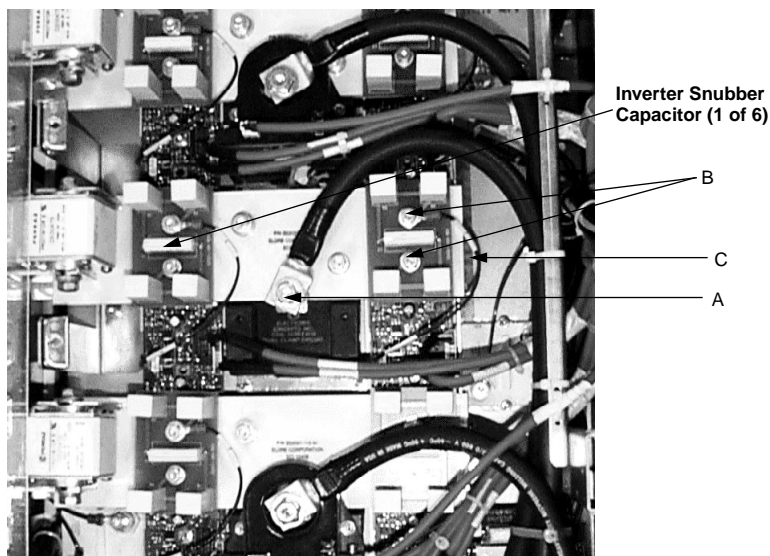

Figure 4.2.9: Inverter IGBT Sections
- Snubber boards. Refer to Figure 4.2.9 on page 4.2.17 and Figure 4.2.17 on page 4.2.33 for location.
3. Using a hex key wrench, disconnect the power cable (**A** in Figure 4.2.9) from the IGBT laminated bus assembly and move it out of the way as necessary to access the snubber board.
5. To remove the snubber board, loosen and remove two screws (**B**). Noting how it is routed, move the gate driver J1 wire (**C**) aside. (See Figure 4.2.9).
1. Place the snubber board on the inverter IGBT laminated bus assembly. Place the J1 wire (**C** in Figure 4.2.9 on page 4.2.17) from the gate driver board under the top screw of the snubber board, routing the wire toward the right side of the drive controller.
2. Install two screws to secure the snubber board to the IGBT laminated bus assembly (**B** in Figure 4.2.9). Using the torque wrench with a hex key attachment, tighten the two mounting screws to 18 lb-in (2 N•m).
4. Reconnect the power cable to the IGBT laminated bus assembly (**A** in Figure 4.2.9). Torque the screw to 108 lb-in (12.2 N•m).